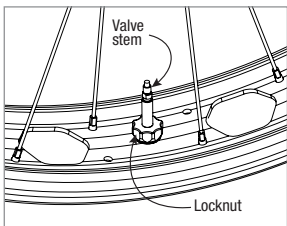

Figure 7
3. Slide the tubeless valve through the rim and spin on the lock nut (Fig. 7). Apply pressure to the rubber portion of the valve to prevent it from turning while you tighten the lock nut. Tighten the nut until you can no longer wiggle or move the valve. Do not overtighten.